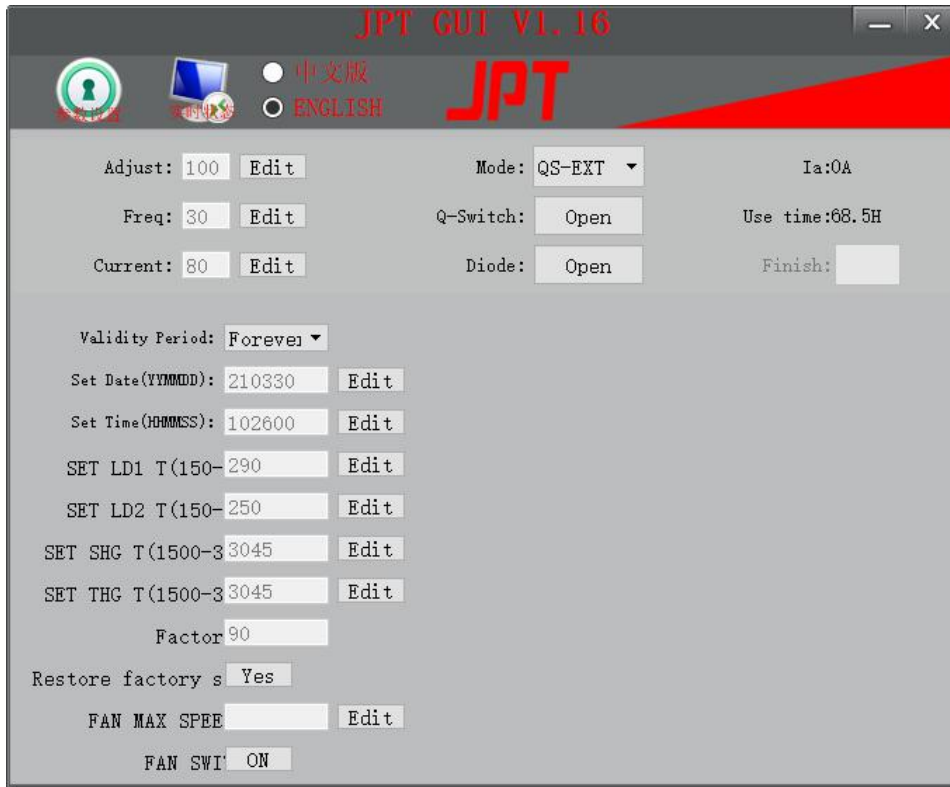

Figure 15
9) Parameter modification interface appears after entering the correct password, as shown in figure 15.